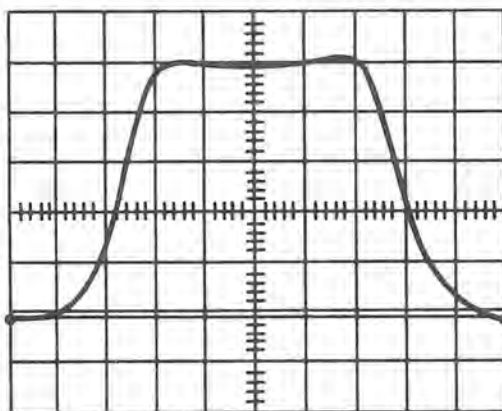

Figure 5-5. Typical Bandpass Amplifier Response Curve
- (9) Adjust inductor and capacitor tuning of amplifier under test for a symmetrical response centered at 20.000 MHz. Response curve should be flat at 3 dB points (figure 5-5).
- (10) Repeat steps (7) through (9) for remaining amplifiers.